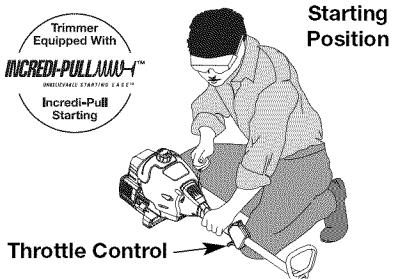

Fig. 4
- Crouch in the starting position (Fig. 4). Do not squeeze the throttle, and pull the starter rope with a controlled and steady motion until the unit starts. Wait 10 to 15 seconds, then squeeze the throttle.